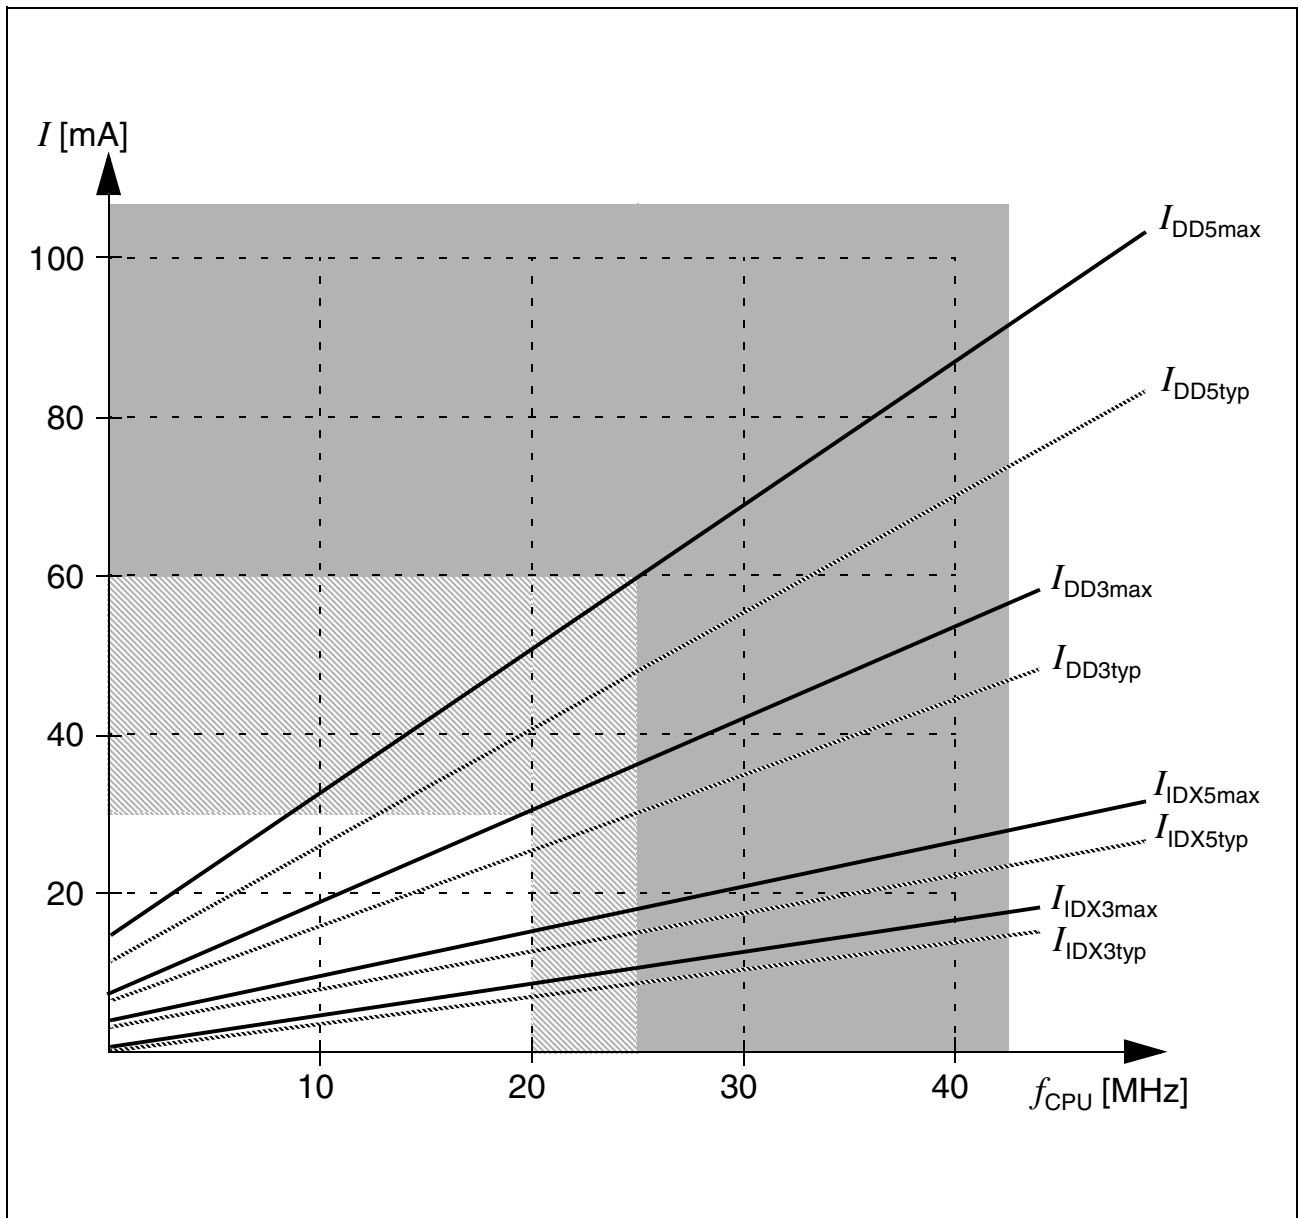

Figure 8 Supply and Idle Current as a Function of Operating Frequency
- 1) The supply current is a function of the operating frequency. This dependency is illustrated in Figure 8. These parameters are tested at V_{DDmax} and maximum CPU clock with all outputs disconnected and all inputs at V_{IL} or V_{IH} .